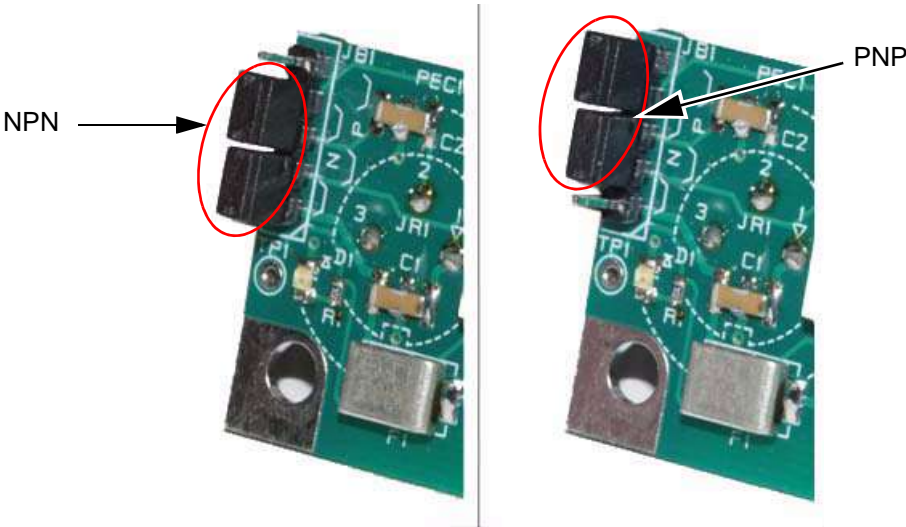

Figure 4-48: Print Trigger Configuration
- 1 The print triggers may be either NPN or PNP devices. The default signal input is NPN. Set Jumper JB1 on the PCB 0, 1 or 3 to match the device type (see Figure 4-48).